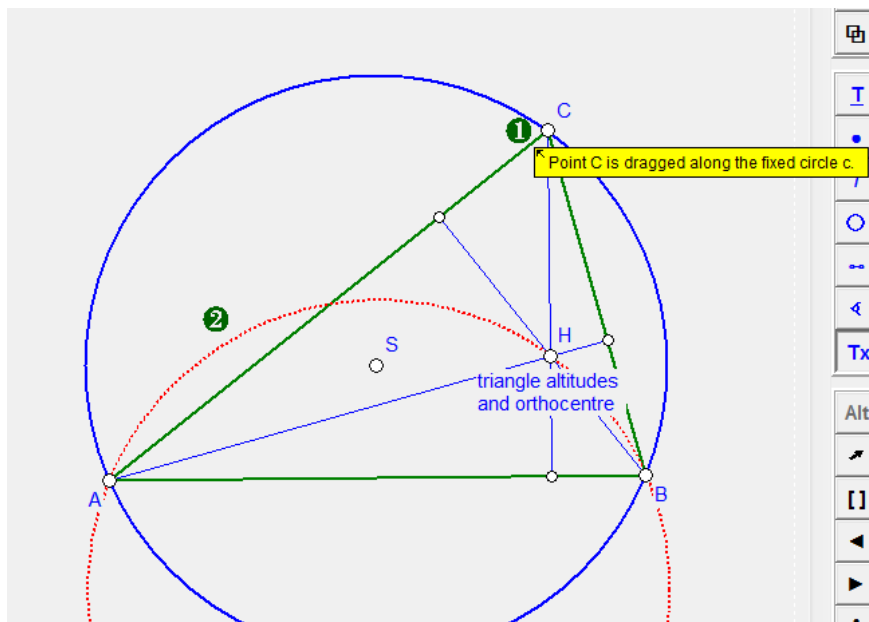

Figure 12
There are also two types of auxiliary objects in OK Geometry. The first type is the **text object** (plain text in the drawing), which can be used to clarify a construction or for other purposes. The second is the **marker object**, which consists of a symbol (①, *, ?, etc.) and text that is only visible when the mouse pointer is positioned on the symbol (Figure 12). Markers are used for different types of comments that should be be selectively visible.